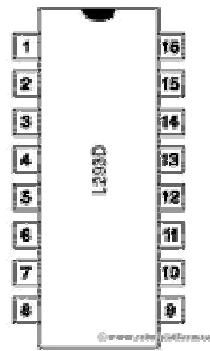

Fig.7
3. L293D has an enable facility which helps you enable the IC output pins. If an enable pin (refer datasheet and figure 7) is set to logic high, then state of the inputs match the state of the outputs. If you pull this low, then the outputs will be turned off regardless of the input states